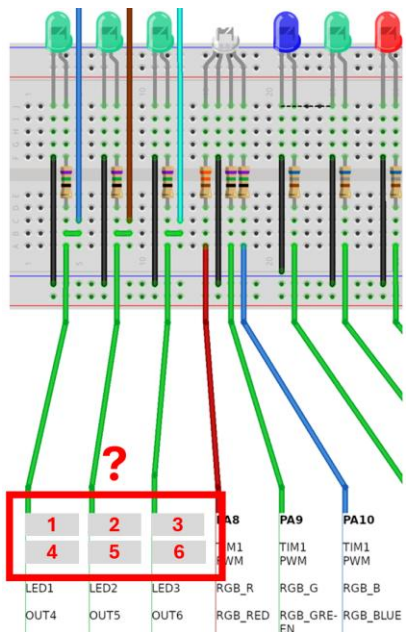

Figure 13
1. It is important to know where all the peripherals are connected to the STM32 IC. We can do this by referring to the Fritzing diagram. In Figure 13,